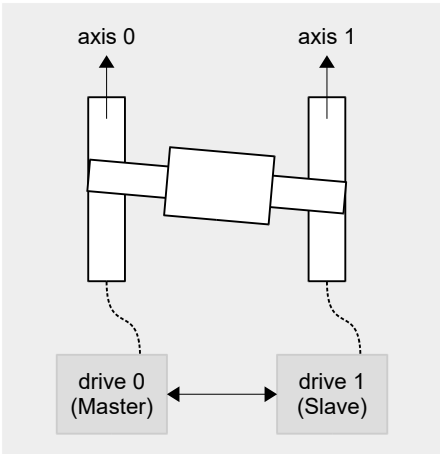

Figure 3.2.1
- A. Connect to the left servo drive in figure 3.2.1 and set Pt00D = t.□□□1 (define it as master).
- C. Connect to the right servo drive in figure 3.2.1 and set Pt00D = t.□□□0 (define it as slave).